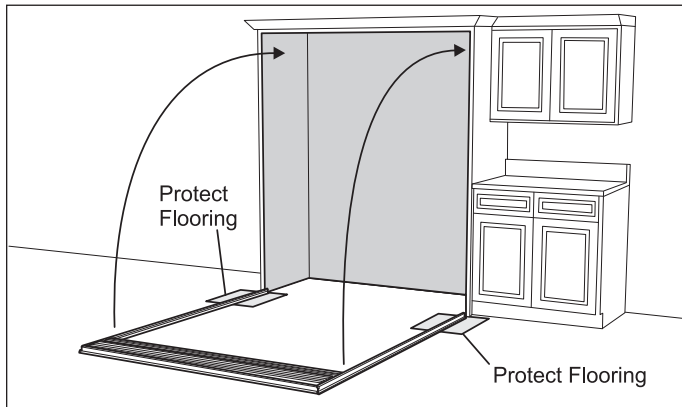

Figure 2-15.
1. First, place protective covering where side trim will contact the floor near rough opening. Then, stand up the grill and frame assembly and center in rough opening. You may need to use several pieces of tape at the top corners and top center to temporarily hold the assembly in place. (See Figure 2-15).